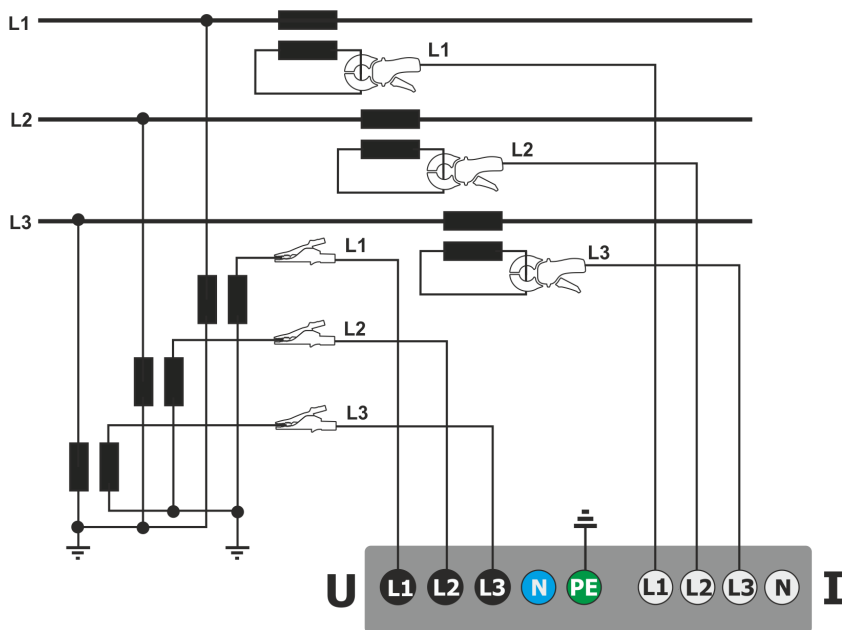

Fig. 44. Wiring diagram – indirect measurement of MV in 3-phase 3-wire system.
- in 3-phase 3-wire system (Fig. 44).